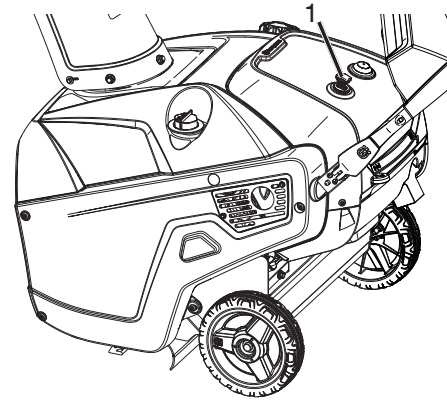

Figure 17
1. To stop the engine, pull key out (Figure 17).